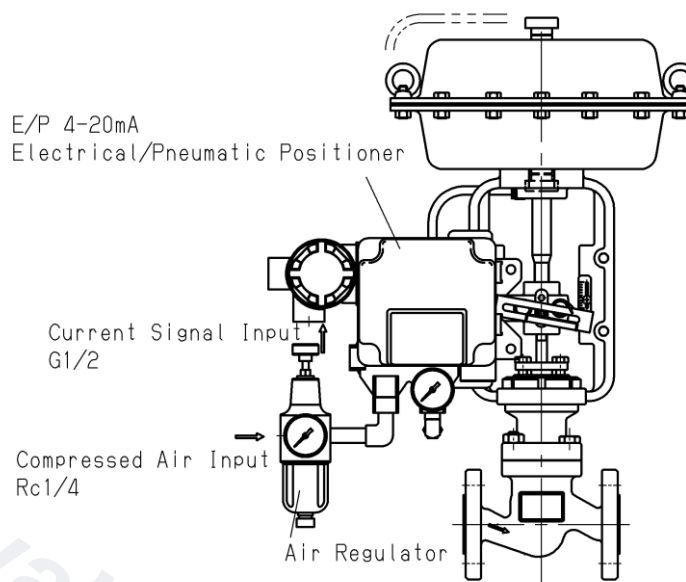
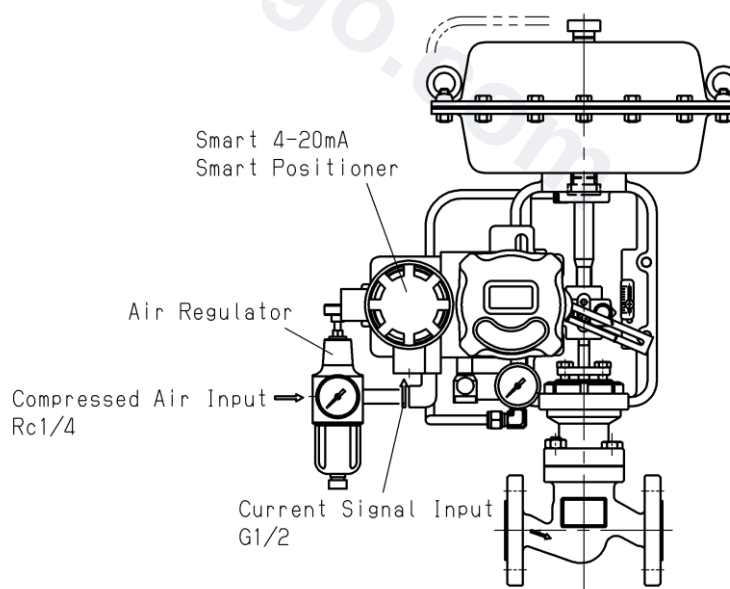
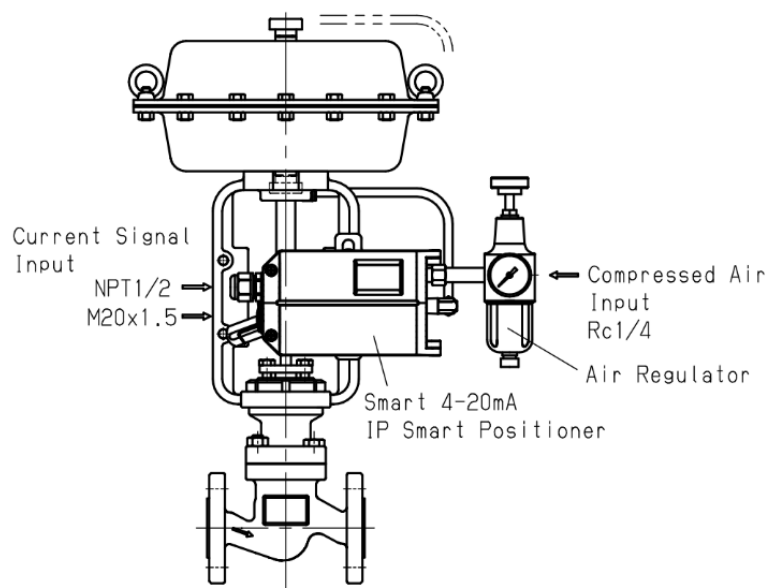

Fig.9
Fig.10
Fig.11
•When purchasing the goods with accessories, it is delivered by the structure with shown in Fig. 9(E/P type), Fig.10(Smart type) and Fig.11(IP Smart type (except Japan)). Please connect the air piping to the operating air connection port in Fig.9-11.
• When purchasing the goods with accessories, it is delivered by the structure with shown in Fig.9. Please draw the signal cable from the external DC signal connection port shown in Fig.9. Connection way is 2 wire type. Please confirm and do wire the DC 4-20mA with the external signal line.
•When purchasing the goods with accessories, it is delivered by the structure with shown in Fig.10. Please draw the signal cable from the external DC signal connection port shown in Fig.10. Connection way is 2 wire type. Please confirm and do wire the DC 4-20mA with the external signal line. The positioner normally operates with a minimum supply current of 3.8 mA DC.
•When purchasing the goods with accessories, it is delivered by the structure with shown in Fig.11. Please draw the signal cable from the external DC signal connection port shown in Fig.11. Connection way is 2 wire type. Please confirm and do wire the DC 4-20mA with the external signal line. The positioner normally operates with a minimum supply current of 3.8 mA DC.